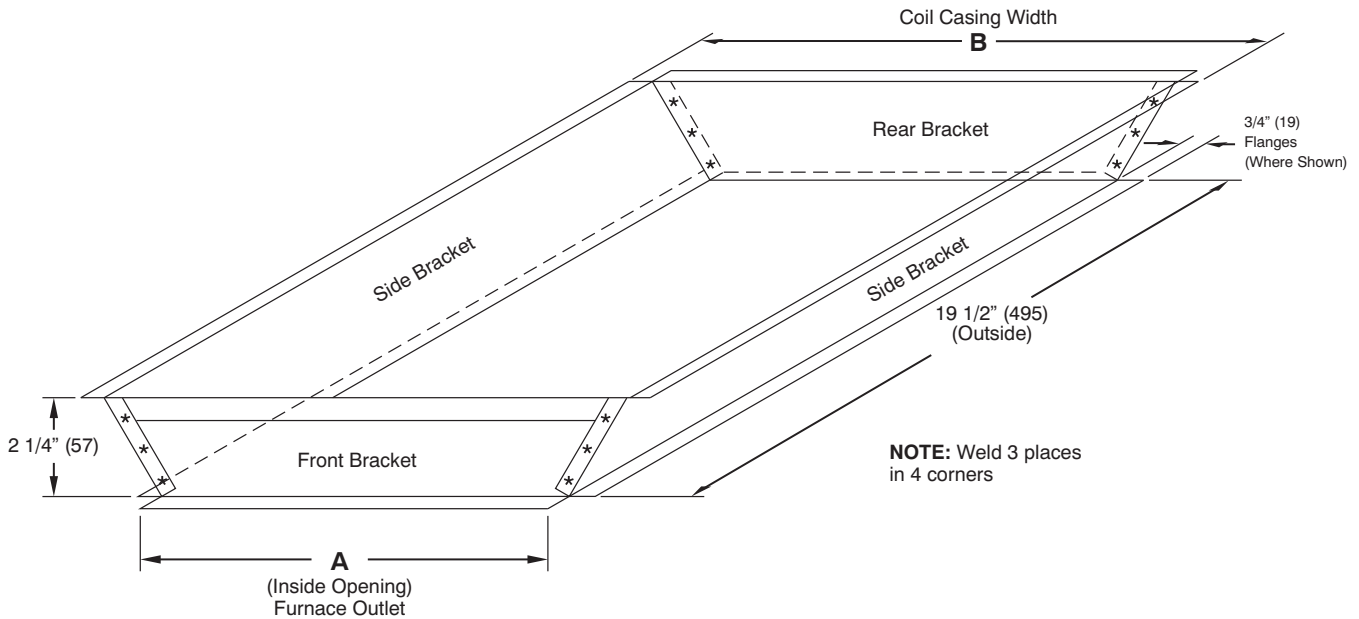

Fig. 5 - Recommended Transition
1. Prepare transition, following recommended transition drawing. See Fig. 5. Fabricate a 2 1/4\" (57 mm) tall (minimum) transition.